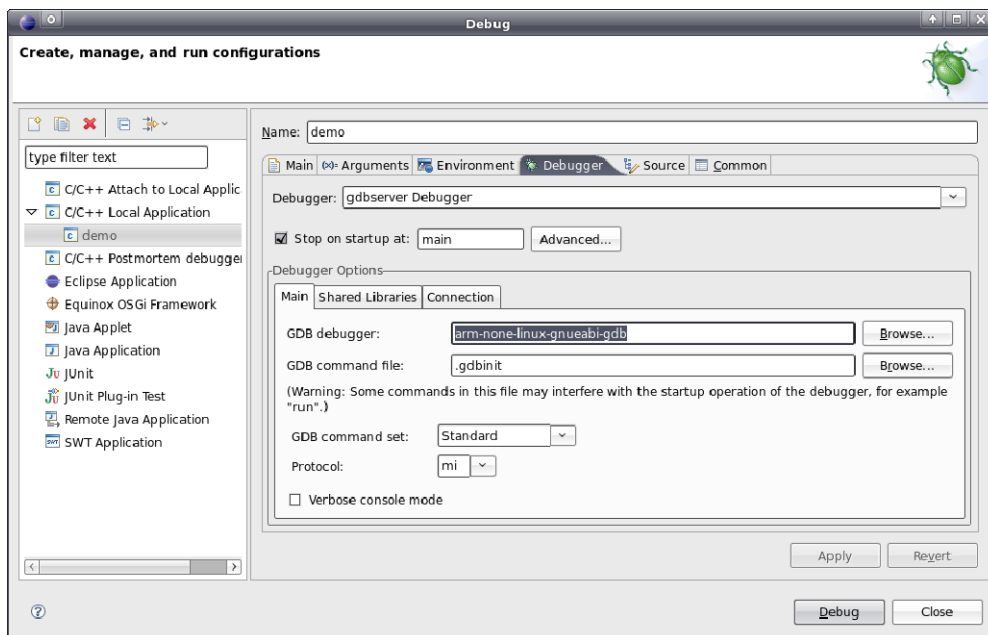

Figure 54: Selecting the GDB Debugger
2.2 Selecting the GDB Debugger to be used (see Figure 54)
Host-sided use the GDB Debugger that is included in the GNU-Crosscompiler Toolchain for ARM9 processors. To select it, activate Tabsheet "Debugger". Enter GDB Debugger of the Crosscompiler Toolchain in section "Debugger Options" in Sub-Tabsheet "Main" area "GDB debugger" (see Figure 54; for the above example this would be: "arm-none-linux-gnueabi-gdb").